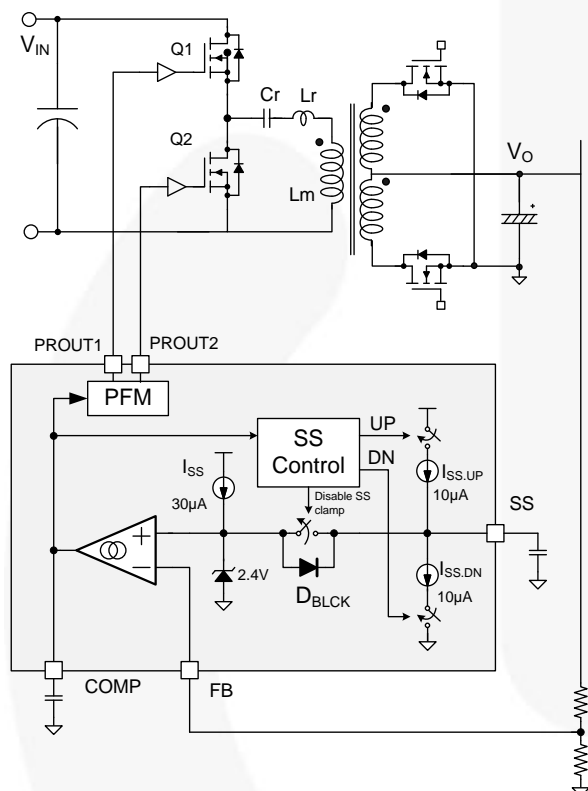

Figure 68. Schematic of Closed Loop Soft-Start
Figure 68 shows the simplified circuit block for feedback control and closed loop soft-start. During normal, steady state operation, the Soft-Start (SS) pin is connected to the non-inverting input of the error amplifier which is clamped at 2.4 V. The feedback loop operates such that the sensed output voltage is same as the SS pin voltage. During startup, an internal current source ($I_{SS,T}$) charges the SS capacitor and SS pin voltage progressively increases. Therefore, the output voltage also rises monotonically as a result of closed loop SS control.